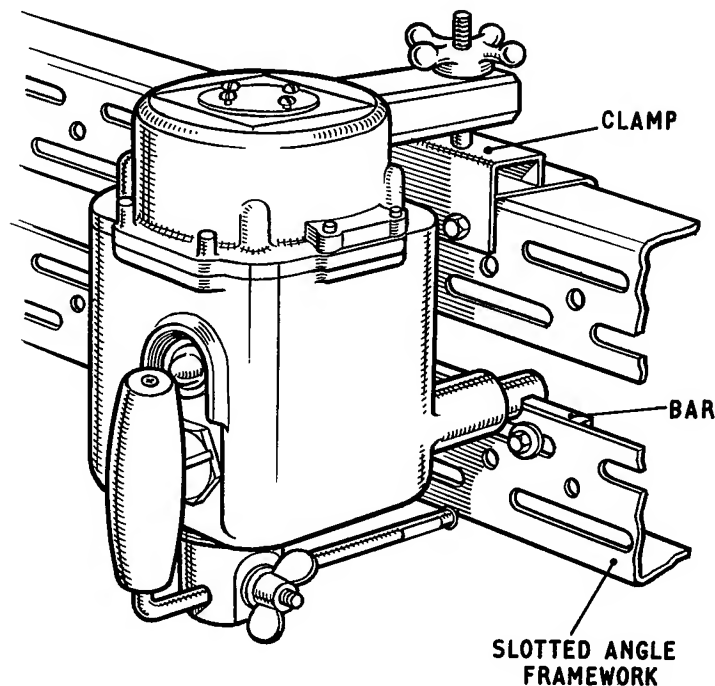

FIG. 37 HAND GENERATOR STOWED ON FRAMEWORK
(1) Manpack carrying frames
(2) Hand generator
- (c) A steel bar 6-in. x $1\frac{1}{2}$ -in. and a screw clamp are provided to secure the generator to the framework. Bolt the bar to the front of the upper slots on the lower rail. Bolt the clamp to the top rail over it. See fig. 37.
- (d) To stow the generator, hook the feet over the bar, engage the lug under the screw clamp and tighten it down. See fig. 37.